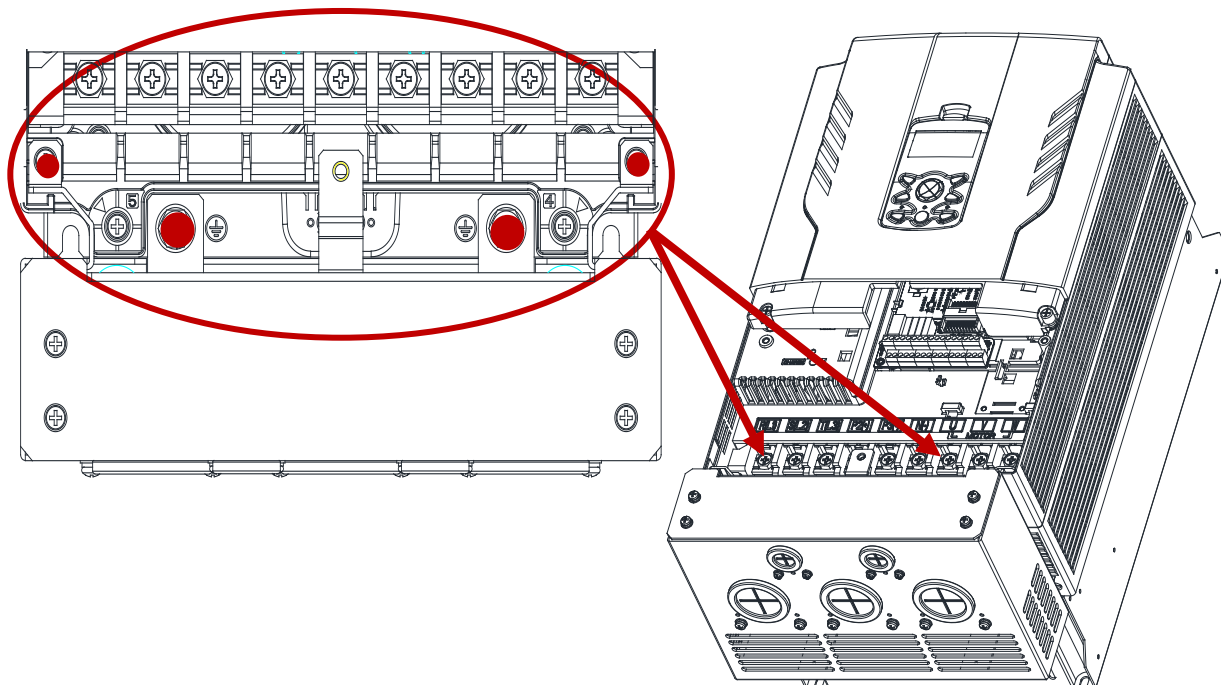

Figure 14. Install
- ② Fasten the Conduit Option to fit on the ground terminals and both ends (4points) of the product using the prescribed bolt as shown in the Figure 14.